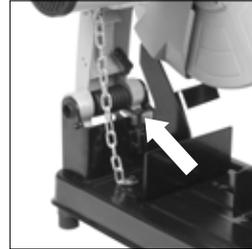

Fig. 7
- Loosen the locknut on the downward travel stop screw. **(Fig. 7)**
- Turn the adjusting screw **(Fig. 7)** out (counter-clockwise) to decrease the downwards travel of the Cutting Head.